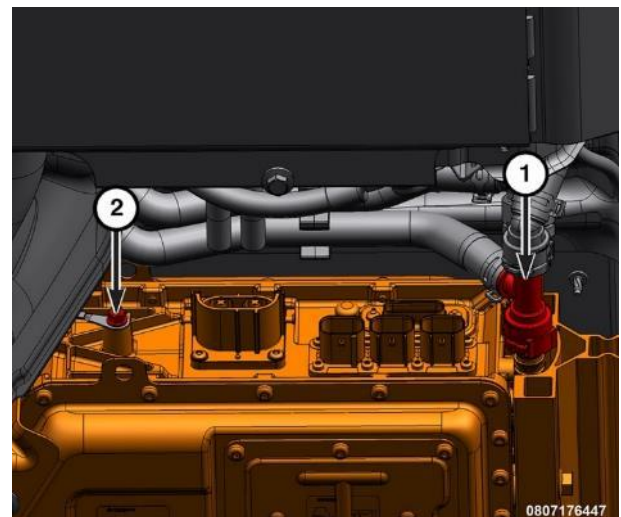

Figure 45 – HV Battery - Primary
28. Using suitable container and pliers, clamp the coolant hose and disconnect the coolant line quick-connect fitting (Figure 45).
29. Remove the bolt that secures the ground cable (Figure 45).